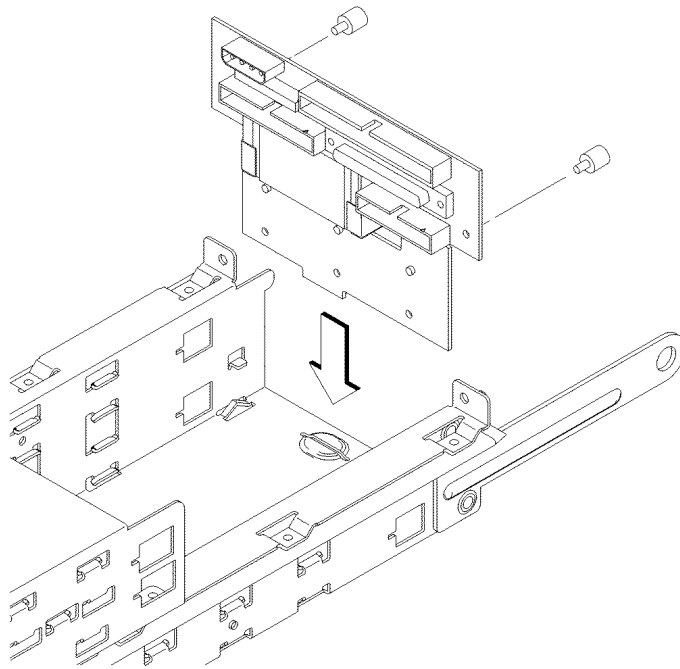

Figure 36
- 8 Slide the disk interconnect board into the storage tray, as shown in Figure 36.
- 11 Replace the disk interconnect board retaining screws and tighten them firmly, as shown in Figure 36.